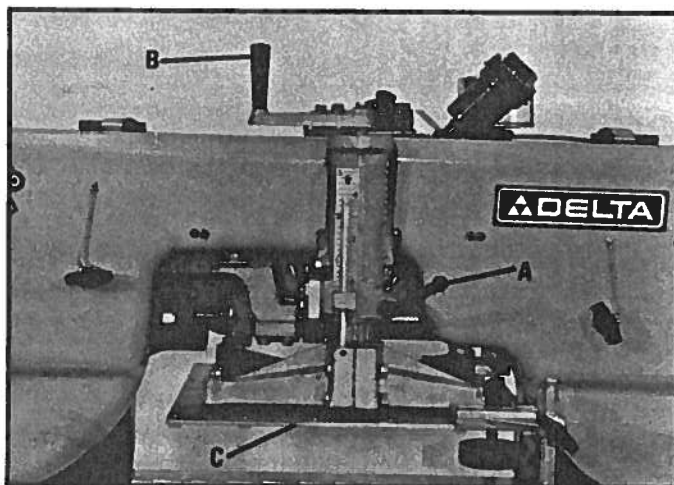

Fig. 23
1. Loosen column lock handle (A) Fig. 23.
2. Rotate the depth of cut handle (B) Fig. 23, to raise or lower the platen (C), to the desired distance from the saw blade.
3. Then tighten column lock handle (A) Fig. 23.